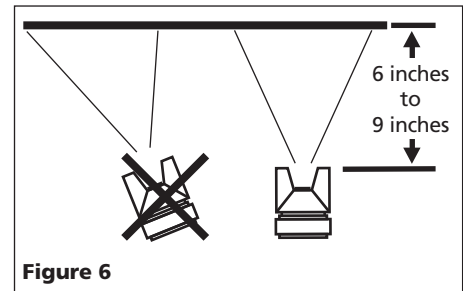

Figure 6
1. Begin spraying. Always keep the gun at right angles to the work by flexing your wrist while making the paint stroke (See Figure 6).